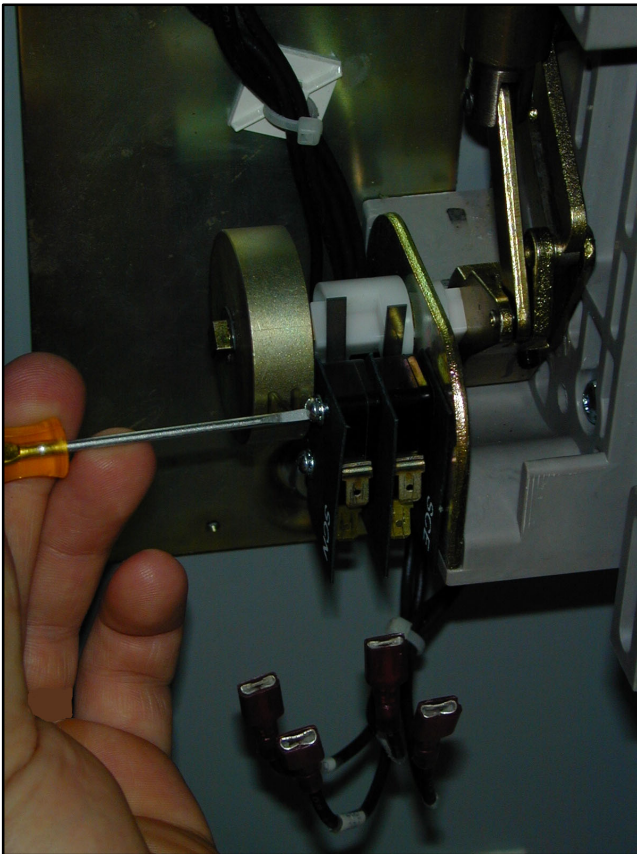

Figure 7-62 Microswitch Installation
11. Reinstall the microswitch assembly. See Figure 7-62.